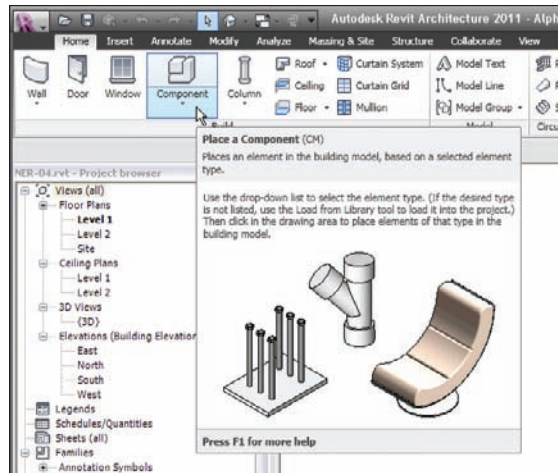

FIGURE 2.74 Clicking Component on the Home tab
1. On the Home tab, click Component, as shown in Figure 2.74.